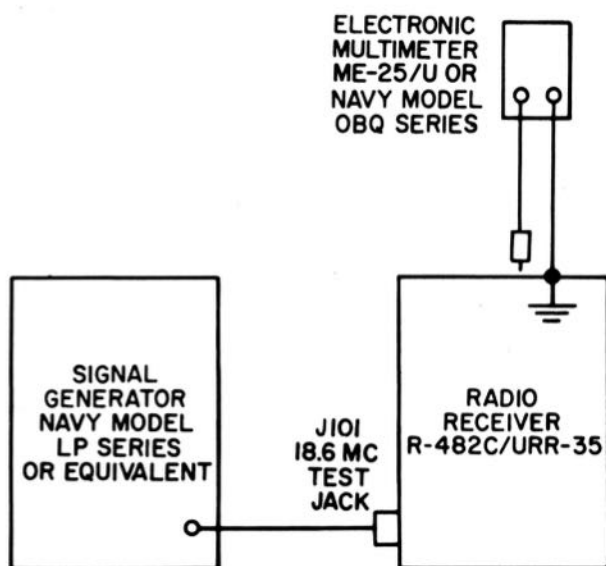

Figure 7-3. Bench Test Set-Up for I-F Alignment
c. ALIGNMENT OF I-F SECTION. (See figure 7-3).
(See figure 7-3.)